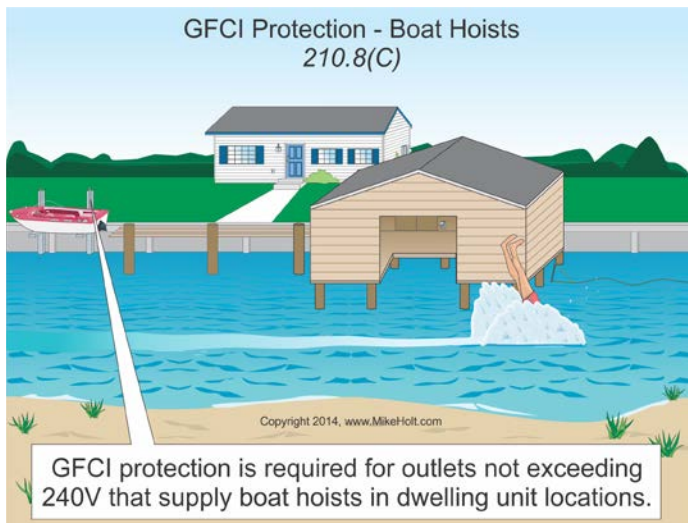

Figure 210-43
(C) Boat Hoists. GFCI protection is required for outlets supplying boat hoists in dwelling unit locations. Figure 210-43